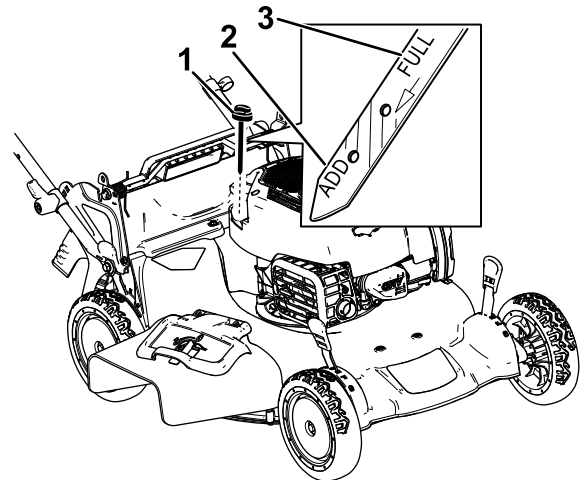

Figure 39
3. Remove the dipstick by rotating the cap counterclockwise and pulling it out (Figure 39).
10. Read the oil level on the dipstick (Figure 39).